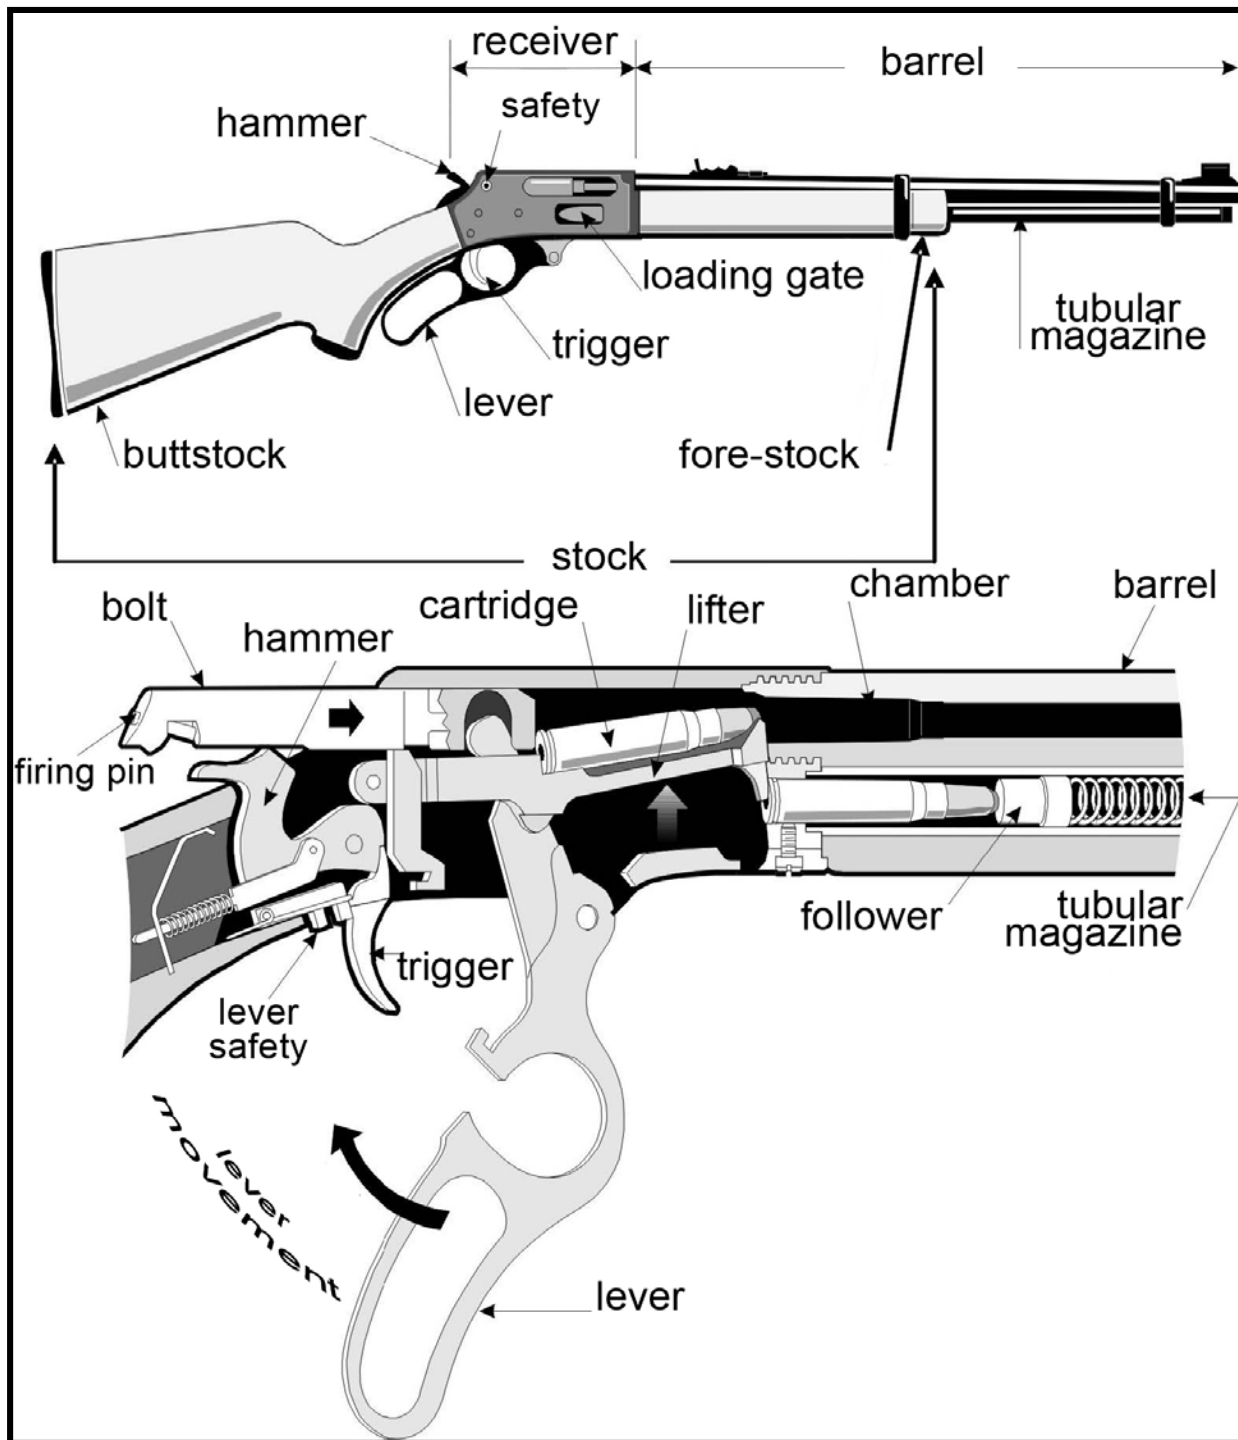

Figure 53. Lever Action
- a. A lever-action firearm has a metal handle located just behind the trigger (Figure 53). This action is most often used on rifles.